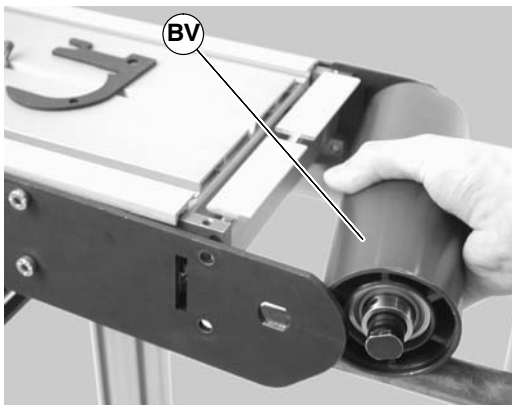

Figure 50
4. Slide the idler pulley assembly (BV of Figure 50) out of the headplate on the opposite side.